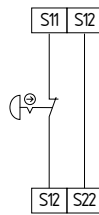

Fig. 5
**Single-channel emergency stop circuit with command devices to DIN EN ISO 13850 (EN 418) and EN 60947-5-5 (Fig. 5)**